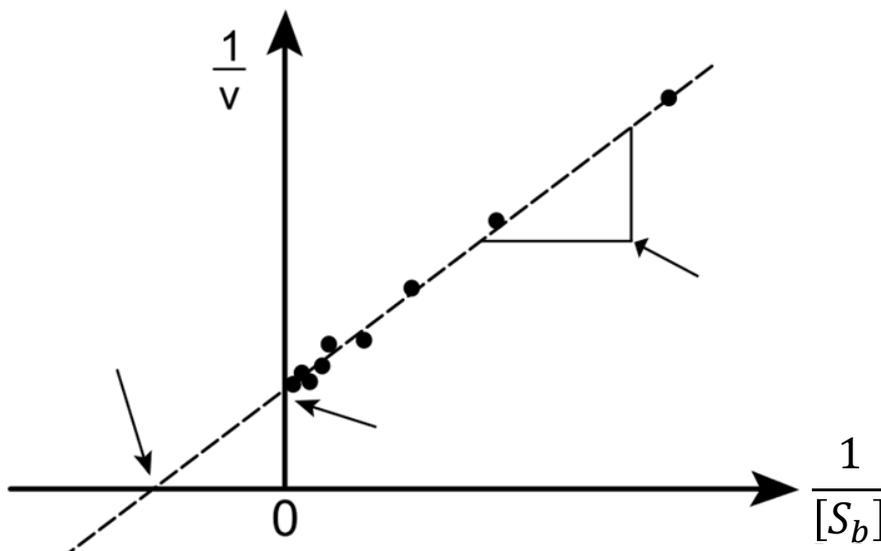

Figure Q1. Lineweaver-Burke plot for experimental determination of V_m and K_m .
- (b) Explain how the values of V_m and K_m can be obtained experimentally using the Lineweaver-Burke ("double reciprocal") plot shown in Figure Q1. Write the equations for the line gradient, the x-intercept and the y-intercept shown on the plot below.